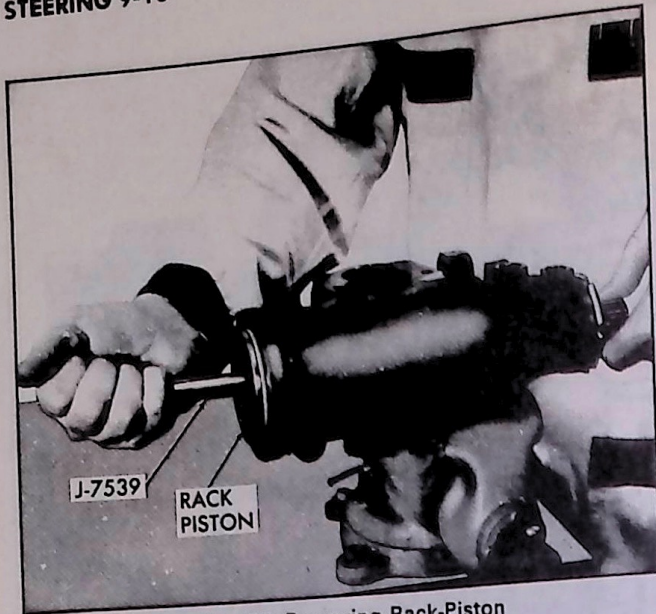

Fig. 35—Removing Rack-Piston
- a. Insert Ball Retainer Tool J-7539 into the rack-piston bore with pilot of tool seated in the end of the worm (fig. 35). Turn the stub shaft counter-clockwise while holding tool tightly against worm. The rack-piston will be forced onto the tool.